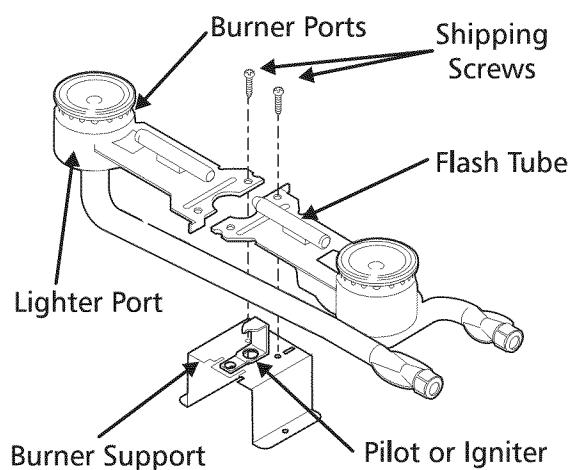

Figure 2
Check the lighter and burner ports (Figure 2). If they are clogged, use a wire or needle to clear them.
3. Be sure both tabs are in the correct slots, the burner sits level and straight, and the flash tube forms a straight line from the igniter to the burner (Figure 2).